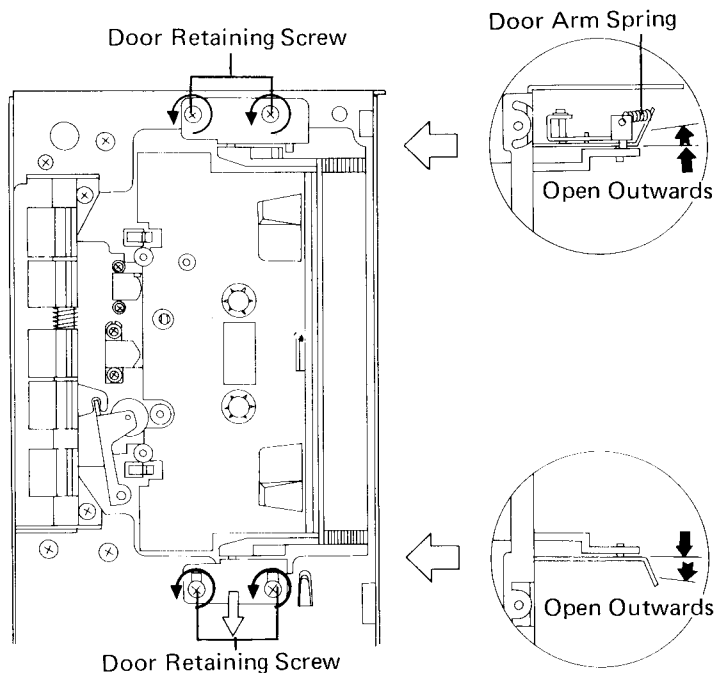

Fig. 14
3. The four screws which secure the door supports at both sides of the door, in front of the panel stay, are slackened (See Fig.14).
4. With the door in the shut position, the door may be pulled forward and detached when the supports mentioned in (3) above are displaced to the side (outwards).